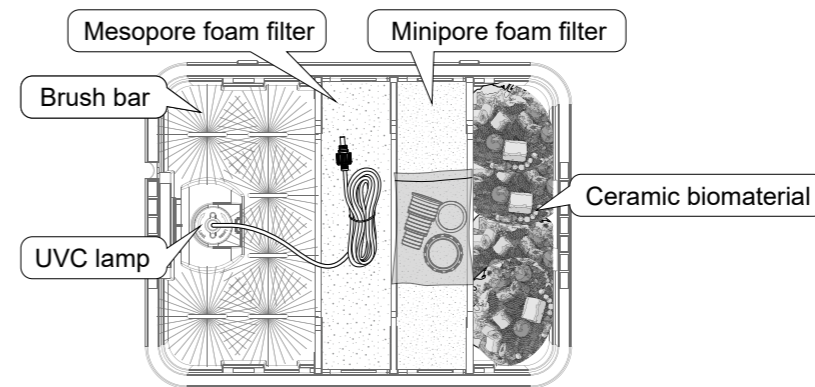

Figure 5
- 1) Unlock the plastic lid from the four buckles on the two sides of the filter body and remove the lid. Check if the UVC lamp, 6 brush filters, the coarse and fine foam filters and the 4 bags of biomaterial are available and in place as shown in the **Figure 5**. Noted that the UVC lamp should be turned clockwise to the end to have it locked in place.